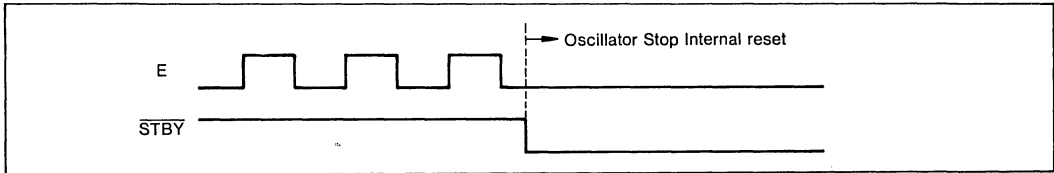

Figure III-14. E During Standby
**Answer:** No. The CPU enters standby mode regardless of the current instruction; the CPU goes into reset condition and the oscillator stops with  $\overline{STBY}$  low (figure III-14).